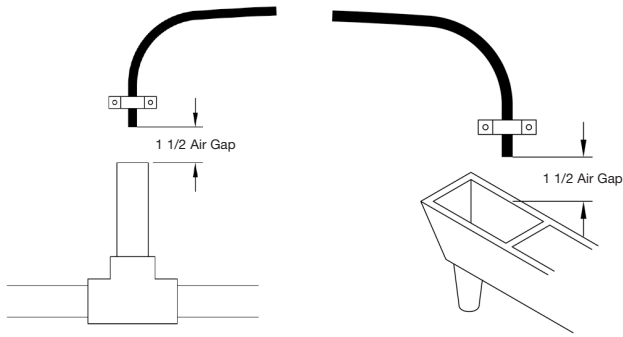

Figure 7: Also be sure drain line has an air gap.
2. If the drain line is a 5/8" outside diameter X 1/2" inside diameter flexible poly tube, slide the nut onto the poly tube, then place the poly tube insert into the end of the poly tube and tighten the nut on to the 3/4" drain line fitting. The nut is only designed for use with flexible poly tube. Use other nuts if attaching different materials. Run line to a drain. Making sure you have a 1 1/2" airgap. You may use a floor drain, standpipe or any open type drain (see Fig. 7 on page 13).